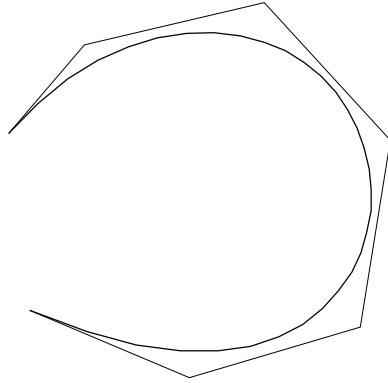

Fig. 2
- 3 **Check** the Polyline check box. **OK** (Fig. 2).